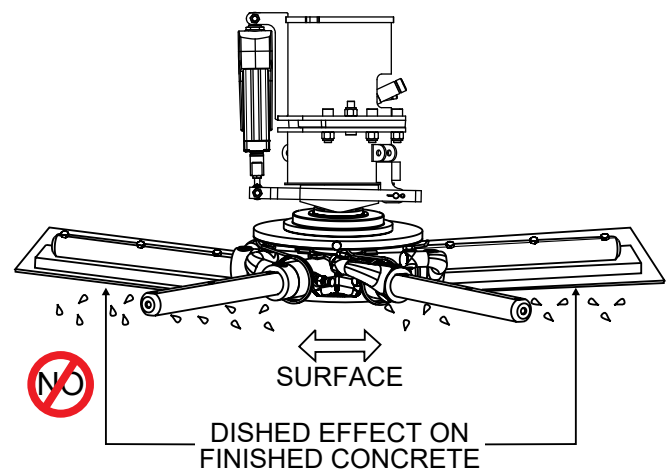

Figure 46. Incorrect Spider Alignment
3. If any adjustment bolts are not making contact with the lower wear plate, adjustment will be necessary. Figure 46 illustrates incorrect alignment, worn spider bushings, or bent trowel arms.